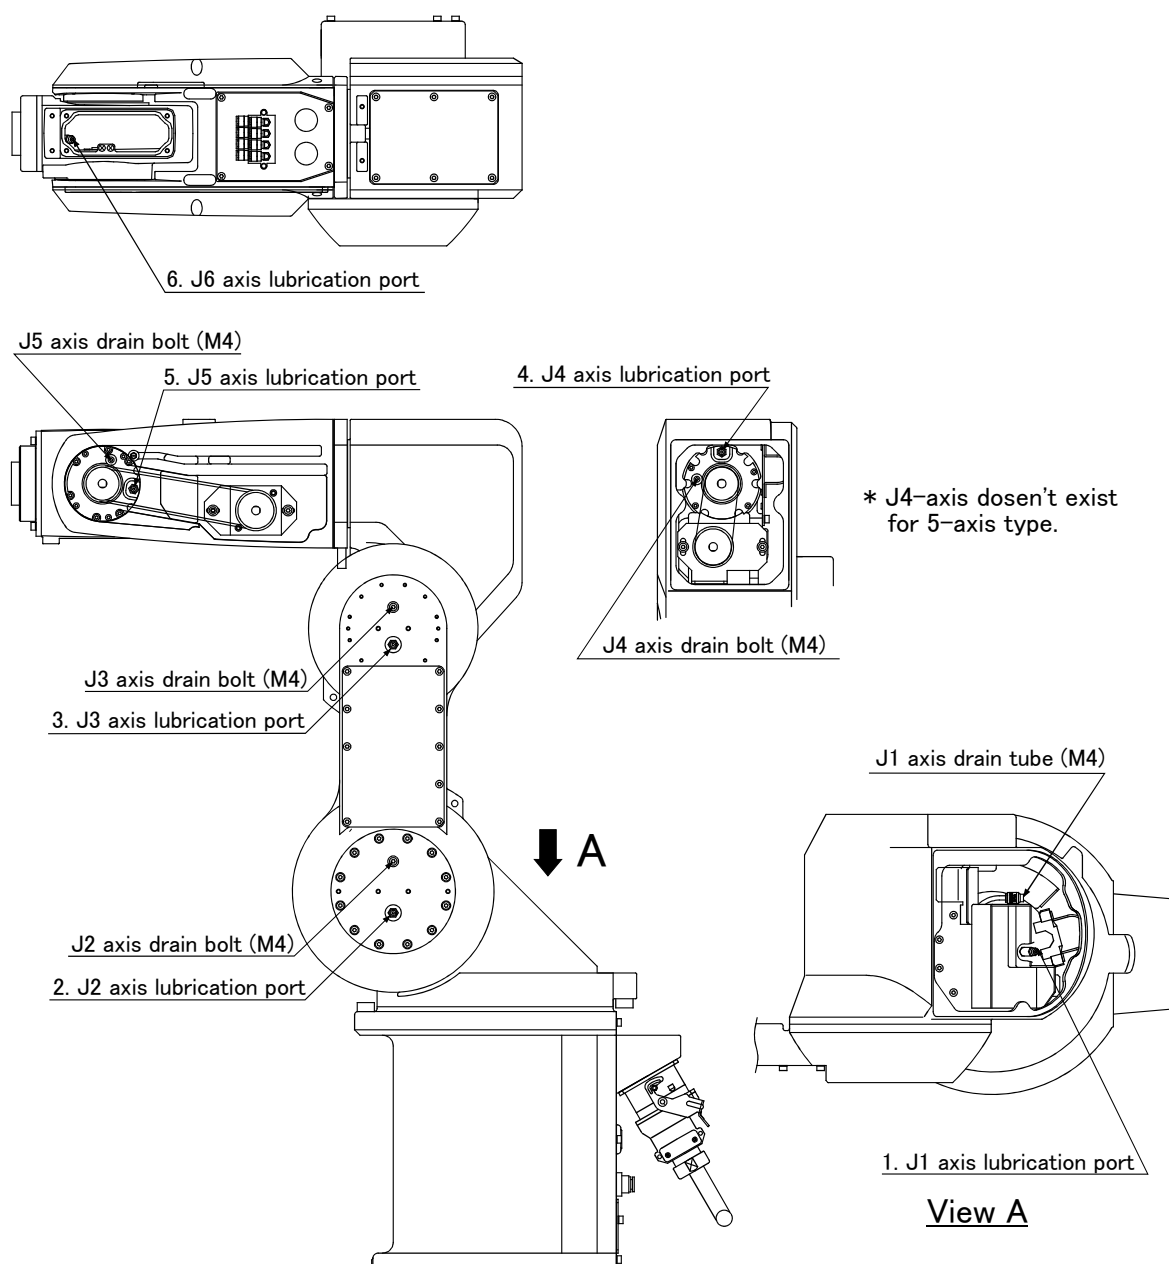

Fig.5-9 : Lubrication positions
The grease nipple position is shown in Fig. 5-9. The lubrication specifications for each place are shown in Fig. 5-9. [Caution]
- The numbers in the correspond to the supply positions in Fig. 5-9.
(2) Lubrication method
- 1) Set the robot to the posture shown in Fig. 5-9.